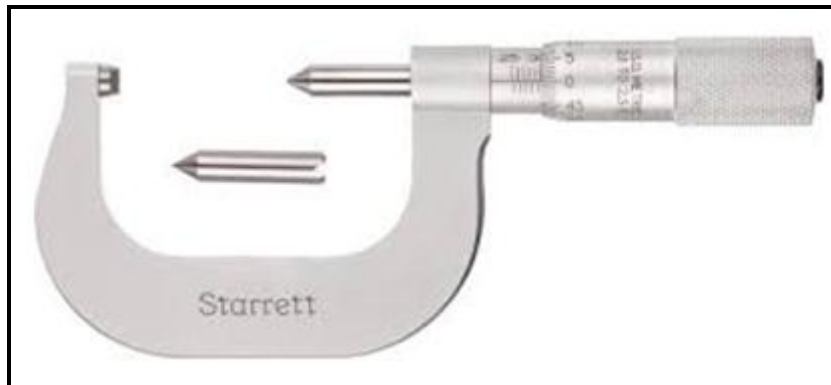

FIGURE 7.4
7.4 Identify the instrument in FIGURE 7.4 below.